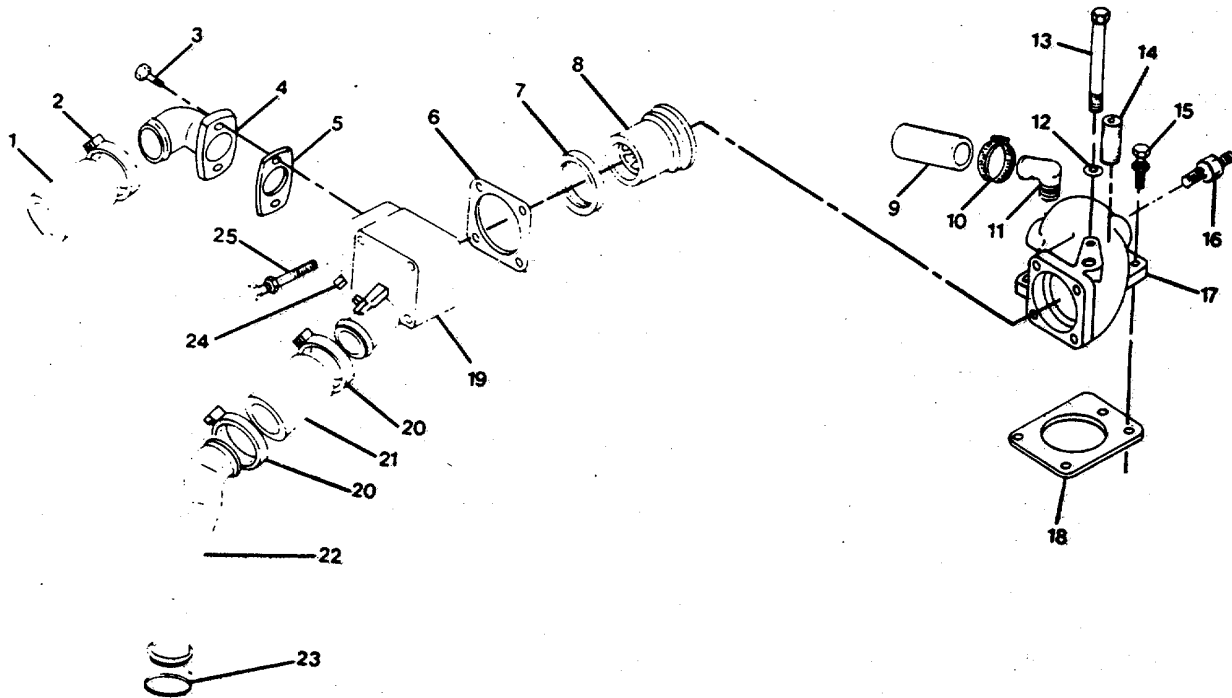

FIGURE 2-14. Thermostat Housing Group.
**2-24. Replace/Repair Thermostat Housing Group. (FIGURE 2-14)**